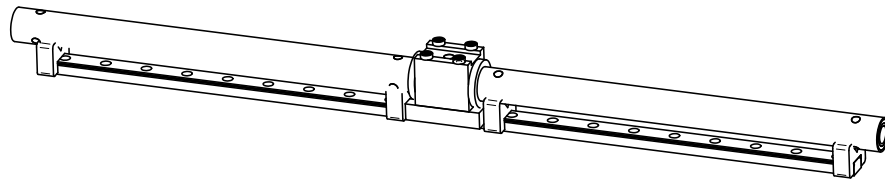
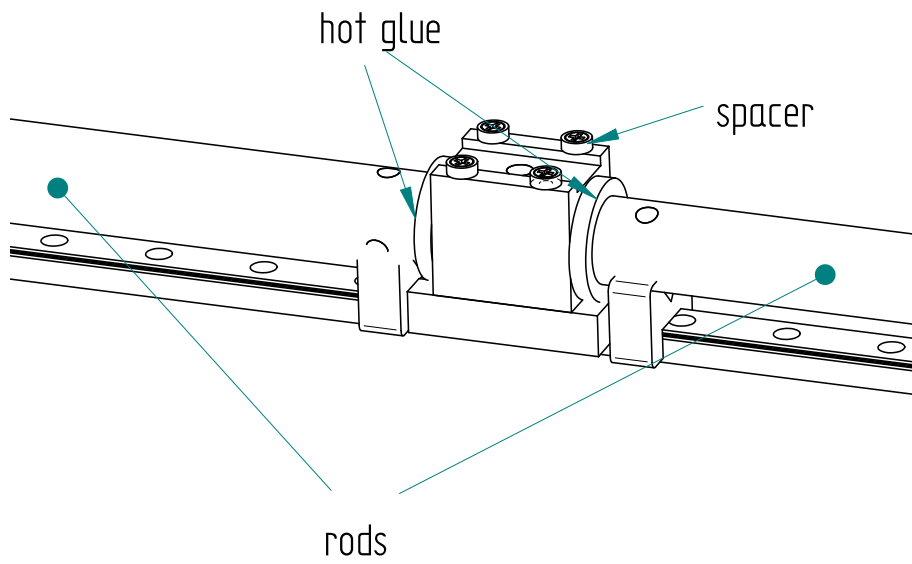

Figure 1.14: male junction aligning
Figure 1.15: male junction aligning zoomed
8. Fix them in place with **hot glue**. See Figure 1.14, page 29 and Figure 1.15, page 29.